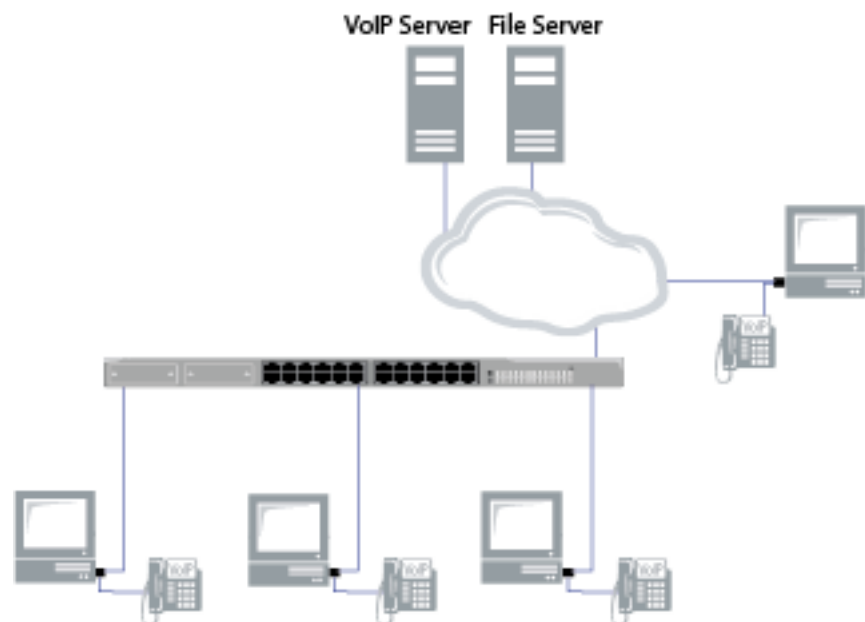

Figure 2. Configuration Example
The AT-2911GP adapter is designed to connect a computer to the Ethernet network using a fiber optic cable and a Powered Device (PD) such as a Voice over IP (VoIP) phone, Wi-Fi access point, or security camera, using a copper cable. In this setting, the adapter functions as a bridge between the fiber port and copper port. Figure 2 on page 17 illustrates an example of a topology with VoIP phones.
To use the AT-2911GP adapter to connect a VoIP phone as shown in Figure 2 on page 17, you must install the AT-MUX utility as well as driver software. The AT-MUX utility bridges frames between the fiber optic port and copper port. To install AT-MUX utility, see Chapter 4, "Installing the AT-MUX Utility" on page 69.
To configure a VoIP phone system as shown in Figure 2 on page 17, see Chapter 5, "Configuring a VoIP Phone System" on page 81.